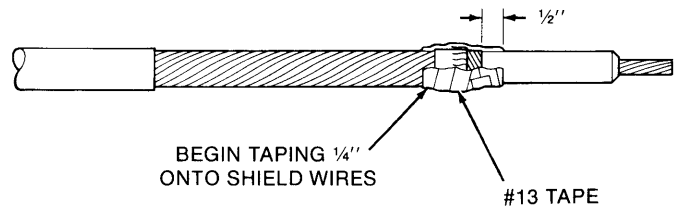

Figure 3
8. Apply two highly elongated half-lapped layers of Scotch Brand 13 Semi-Conducting Tape over vinyl tape, folded back wire ends, cable semi-con and 1/2" onto cable insulation. Leave a smooth leading edge. Begin and end taping approximately 1/4" onto shield wires beyond vinyl tape (Figure 3).